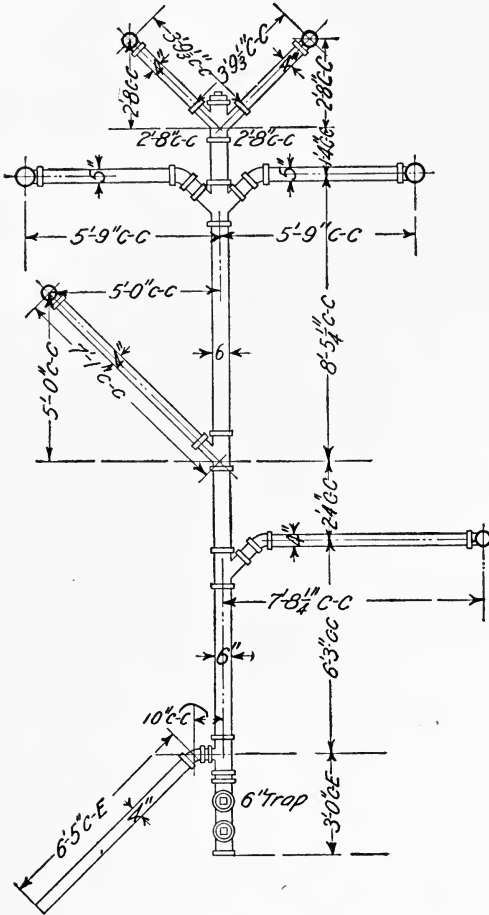

Fig. 105
**Pipe Sketches.**—Drainage pipes for small installations, where the sizes of pipes are 4 inches or less in diameter, are usually cut and threaded with hand tools on the premises. The pipe for large installations, however, where pipes larger than 4 inches in diameter are used, also where a large quantity of piping from 2 inches to 4 inches in diameter is to be installed, is cut and threaded at the shop from sketches and measurements taken in the building. In getting out pipe for drainage work it is customary to sketch, measure and cut certain sections at a time; for instance, the house drain would be sketched and measured in one section; the stack of soil, waste and vent pipe in another section, and the branch connections to fixtures in another section. A sketch such as would be sent to a shop from which to get out pipe for an installation is shown in Fig. 105. On this sketch are marked the sizes of the various pipes, which, in turn, give the size of fitting outlets; also the length